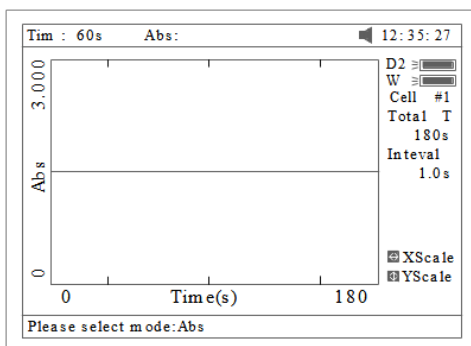

Fig 55
2. Select the test mode ("Abs" or "%T") by pressing **【F2】** (Fig 55).